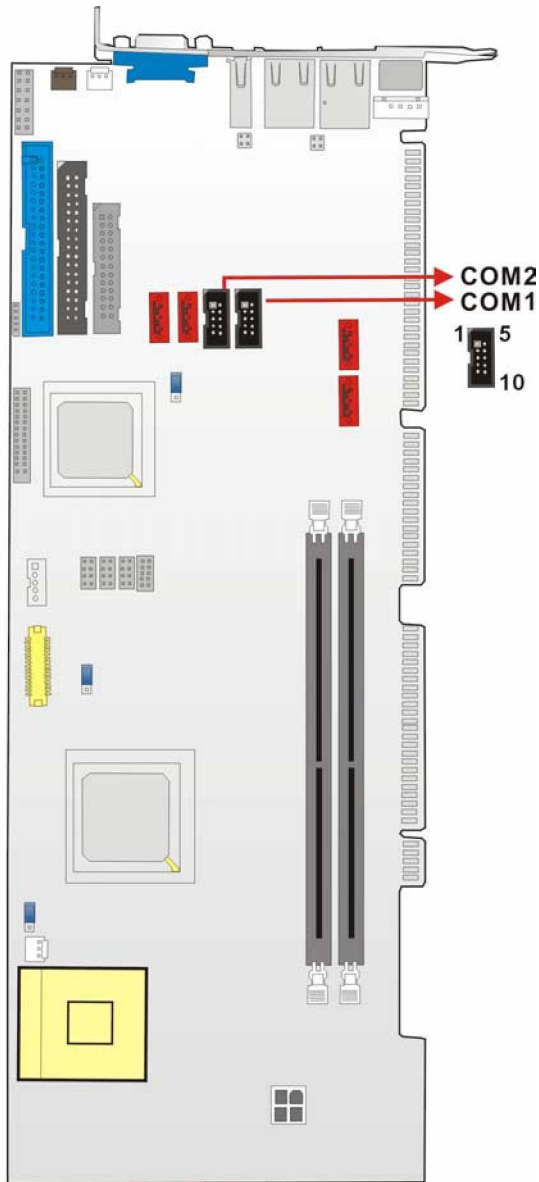

Figure 3-4: COM Port Locations
- CN Location:** See Figure 3-4